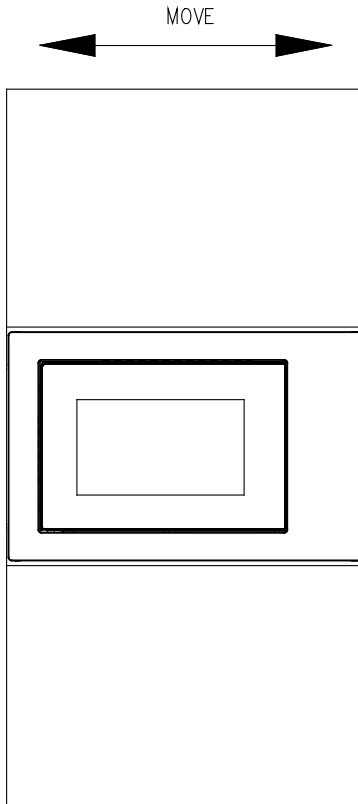

Fig.3
c) Move the product in parallel in the kitchen cabinet according to the direction of the arrow in the figure, and keep it centered (Fig.3).